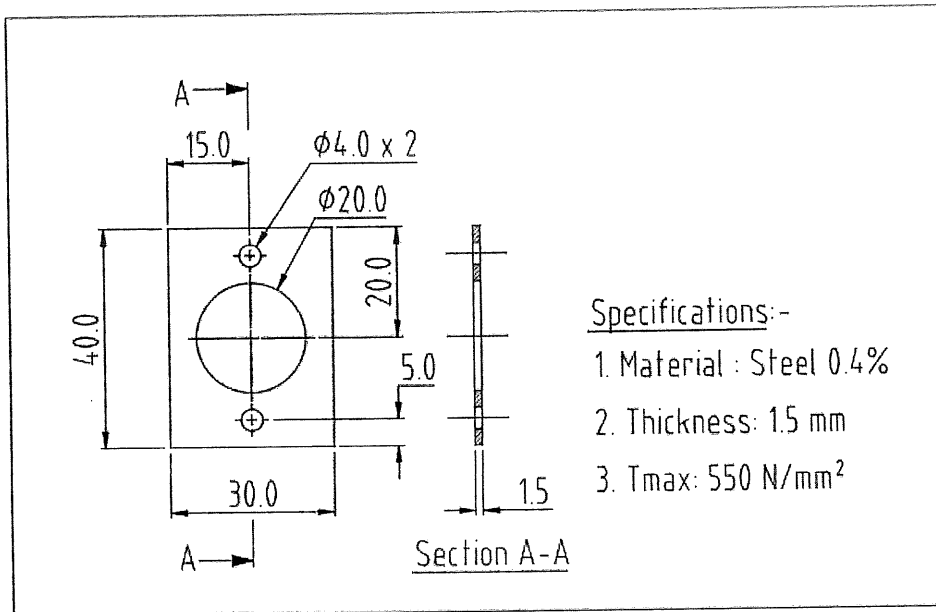

Figure PT1
Note: Refer to Figure PT1 to answer question 5b and 5c.
- c) **Calculate** the following for designing the tool as shown in Figure PT1.